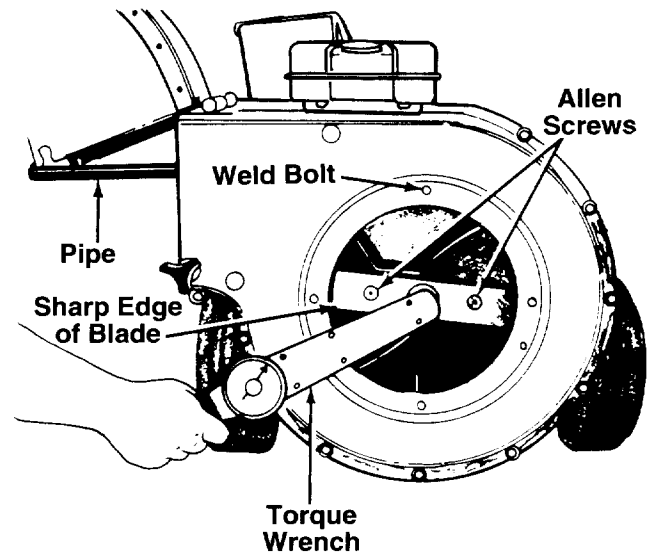

FIGURE 21.
- Lower the hopper assembly. Block up the housing. See figure 21.